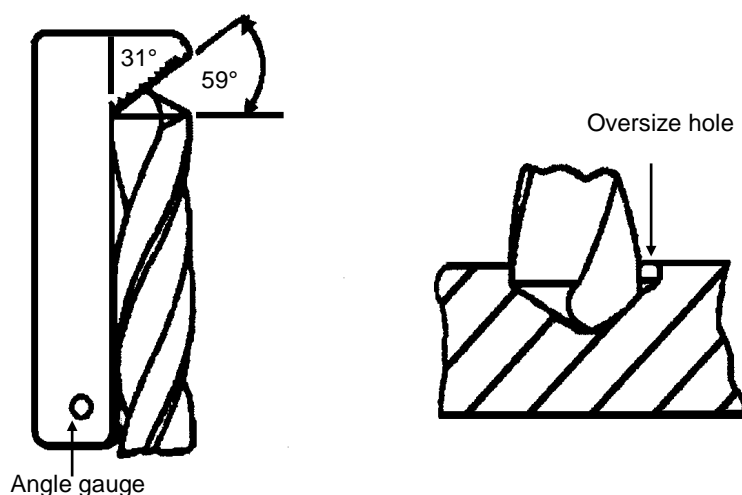

FIG 4.
B. Checking the lip angle using a grinding gauge. (Fig 4)
- Visually check that the lip angle is the same as the gauge. (Included angle of 118°) Refer to Fig 4.
Lips at different angles will cause an oversize hole. (See Fig 4 on previous page)